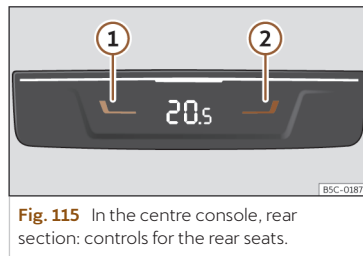

Fig. 115 In the centre console, rear section: controls for the rear seats.
- Press buttons  and  >>> **Fig. 115** to adjust the temperature of the rear zone.